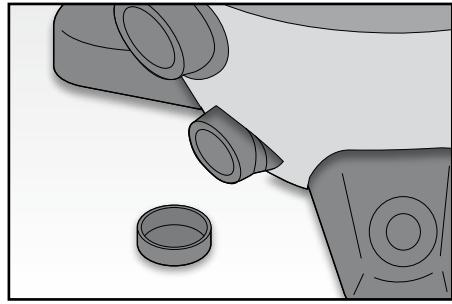

Fig. 5
- If the cleaner has been used to vacuum up liquids, open the drain cap (A) (FIG. 5) and empty the container into a suitable bag.